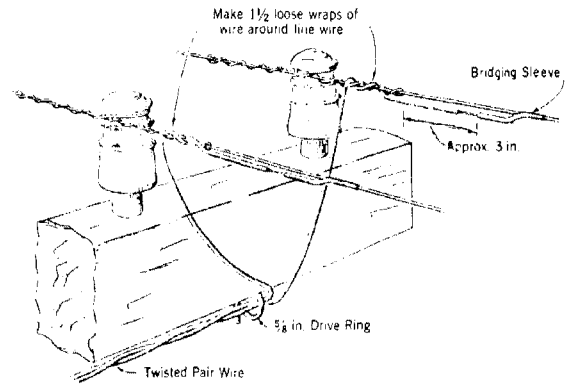

Fig. 10 — Where Line Wires Are Tied to Pin-Type Insulators
5.01 In general, connect twisted pair wire to open wire attached to glass insulators or deadend brackets as illustrated in Fig. 10, 11, and 12. As an alternate, bridging connectors may be used in lieu of bridging sleeves. However, in localities where corrosion of the bridging wire occurs adjacent to the bridging connector, connect to open wire as covered in 5.02 or 5.03 depending on the severity of corrosion.